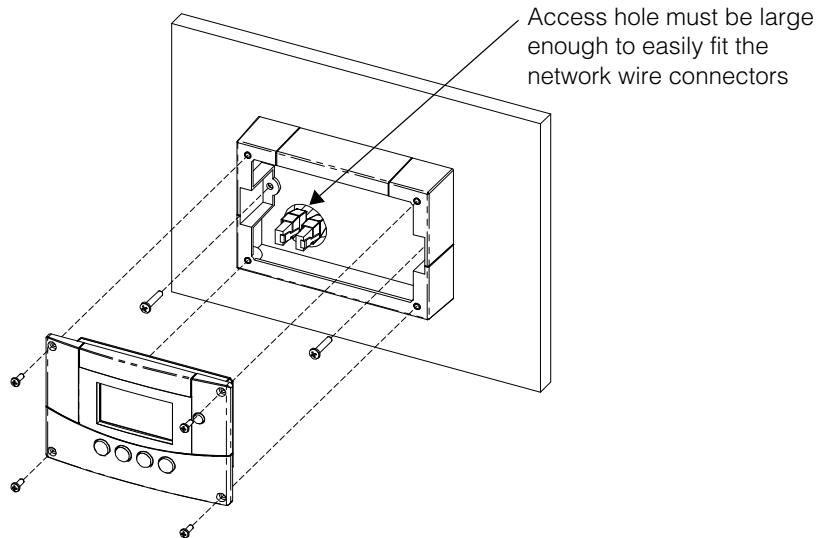

Figure 2-8 Surface Mounting the SCP
6. Place the unit into the mounting bracket and secure it with four #6 screws. See Figure 2-8.